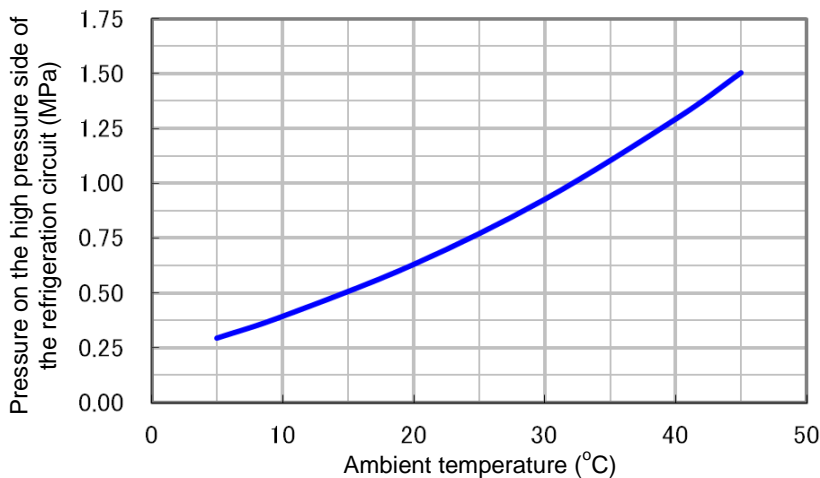

Fig. 3.3-49 Ambient temperature and refrigerant circuit pressure
- (1) Measure the ambient temperature (room temperature).
- (2) Check the pressure shown for "Ph: Refrigerant circuit pressure on the high pressure side" in the "Check Monitor Menu" of the Thermo-Chiller.
- (3) If the measured point is lower than the values shown in the graph in "Fig. 3.3-49: Ambient temperature and refrigerant circuit pressure", it means there is refrigerant leakage caused.